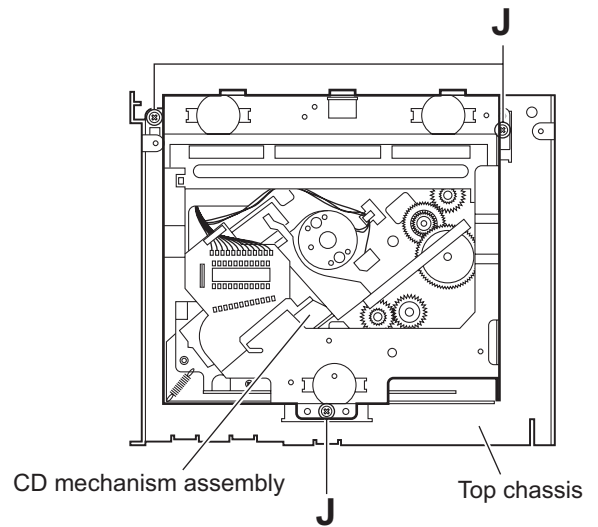

Fig.8
3.1.7 Removing the CD mechanism assembly (See Fig. 8)